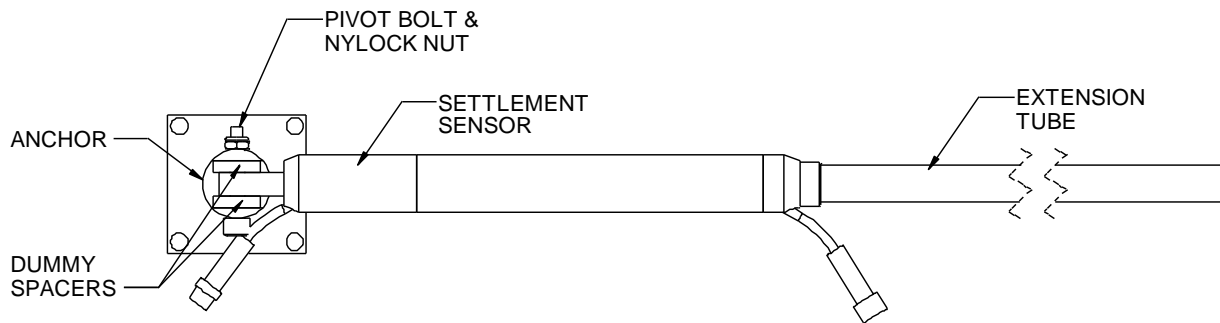

Figure 3: Connecting first set of Anchor Plate and Settlement Sensor
4. Attach the first Settlement Sensor onto the Anchor Plate. (See figure 3)
5. Place two Dummy Spacers on the first Anchor Plate as show in figure 3.
6. Slide the Pivot Bolt through the Anchor, the Settlement Sensor, and the Dummy Spacers. Lock the Pivot Bolt with the provided Nylock Nut. (See figure 3)